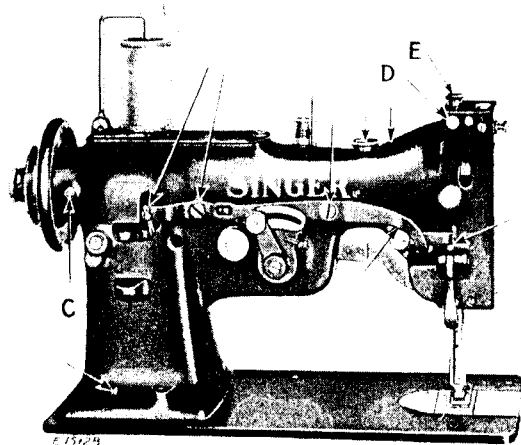

Fig. 3. Oiling Points and Adjustments at Rear of Machine
The pressure of the presser foot on the material is regulated by the thumb screw (E, Fig. 3) at the top of the machine. To increase the pressure, loosen the set screw (D, Fig. 3) at the back of the machine and turn the thumb screw (E) downward. To decrease the pressure, turn the thumb screw (E) upward. When the required amount of pressure is obtained, tighten the set screw (D) at the back of the machine.